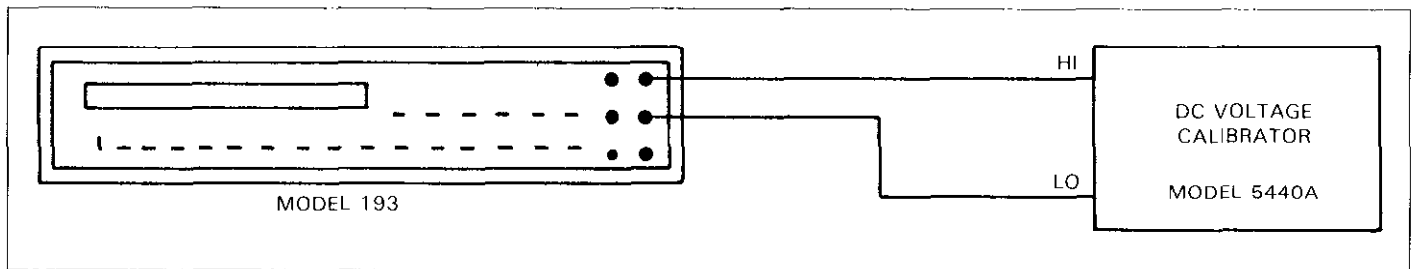

Figure 4-1. Connections for DC Volts Verification
2. Connect the DC voltage calibrator to the Model 193 as shown in Figure 4-1.